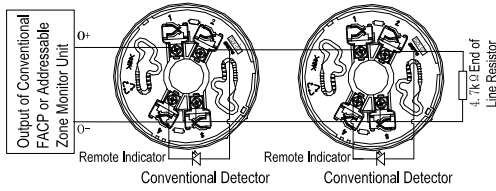

Fig. 6
- When the detector is connected with conventional FACP or addressable zone monitor unit, if a 4.7k Ω end of line resistor is connected to the end of output loop, DB-01 base is used. The system composition is shown in Fig. 6.